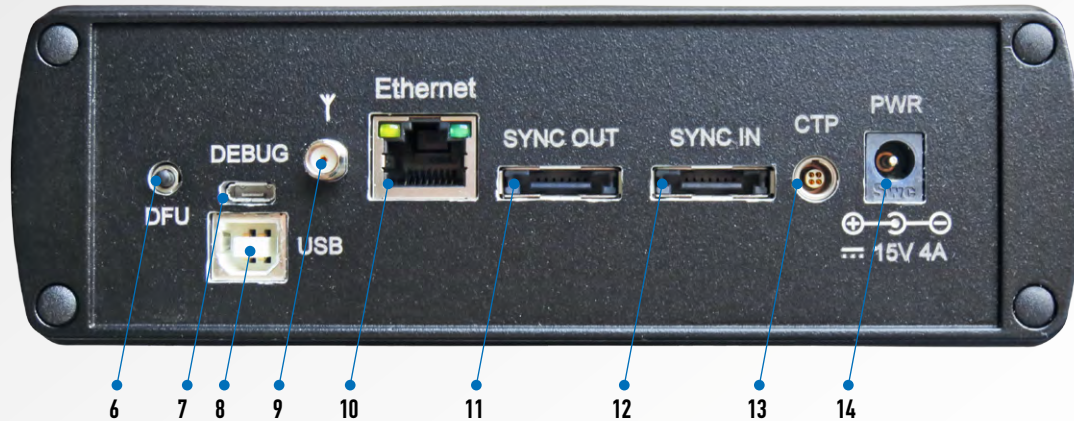

FIGURE 2. A1560 REAR PANEL
The A1560 can be switched to device firmware upgrade (DFU) mode with the **DFU** (Fig.2 Pos.6) key. Please refer to the A1560 Advanced Configuration document for further information.
The **DEBUG** connector (Fig.2 Pos.7) is used by service personnel for A1560 setup and diagnostics.
In device firmware upgrade (DFU) mode, the **USB** connector (Fig.2 Pos.8) is used to upgrade and set up the A1560's firmware. Please refer to the A1560 Advanced Configuration document for further information.
1. Attach the Wi-Fi antenna to the A1560 by positioning the antenna's connector coaxially with the connector of the unit (Fig. 2, Pos. 9) and screwing it clockwise.
Wired communication via the **ETHERNET** port (Fig. 2, Pos. 10) usually provides higher communication speed than Wi-Fi communication. To connect to the A1560 in its default factory configuration via Ethernet:
When linking units into the synchronized chain, the **SYNC OUT** output (Fig.2 Pos.11) of each unit except the last one should be connected to the **SYNC IN** input of the following unit.
When linking units into the synchronized chain, the **SYNC IN** input (Fig.2 Pos.12) of each unit except the first “master” unit should be connected to the **SYNC OUT** output of the previous unit. Every unit except the first “master” unit should be explicitly configured as the device chain “slave”.
When enabled in configuration, the pulse-acquisition sequence of the A1560 can be initiated by any process variable, including a six-coordinate placement (position plus orientation) information. The initiation message, which contains information about a triggering event (process variable, position, time, etc.), is sent by an external triggering device connected to the **CTP** socket (Fig.2 Pos.13). The triggering event information is attached to the acquired data the A1560 sends to data acquisition software.
The power supply unit is connected to the **PWR** connector (Fig.2 Pos.14) of the A1560. You can use the instrument while it is connected to the external power source.